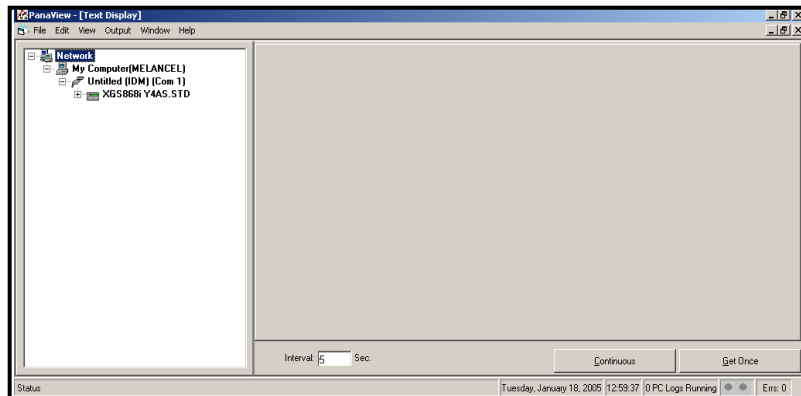

Figure 19: The Text Display Window
2. Using the *Window* menu, as described in the *PanaView User's Manual*, arrange the open windows in the desired format. For this discussion, *Figure 19* shows the *Text Display* window in its maximized (full-screen) size.
5. Before actual data values can be displayed in the text pane, activate one of the following data collection modes (see *Figure 19 on page 48*):